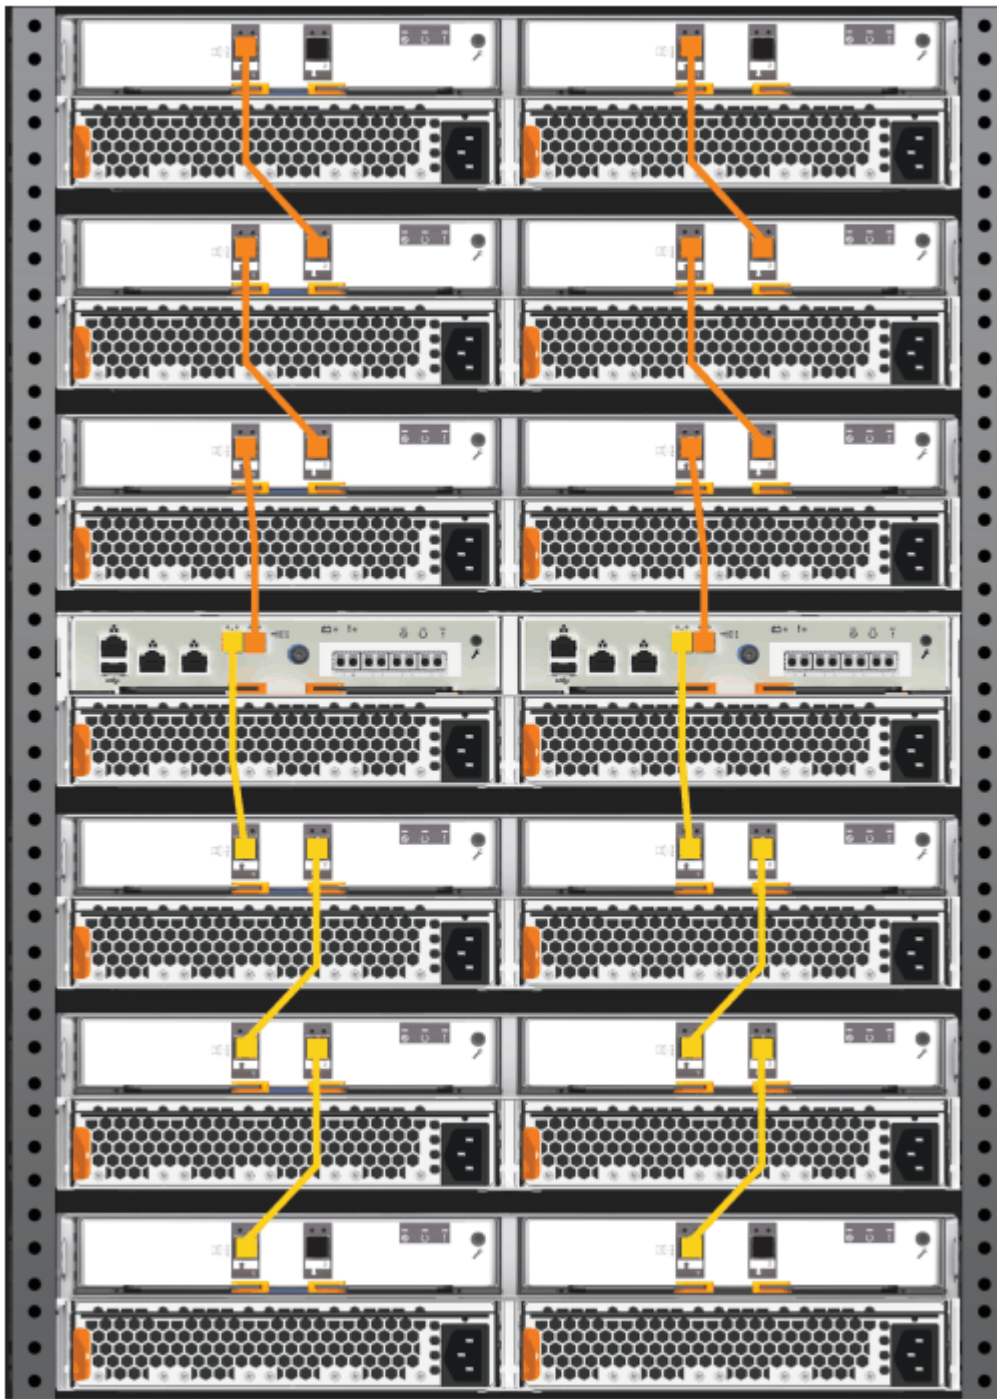

Figure 75. Connecting the SAS cables to a Storwize V5030E system
Figure 75 on page 87 shows how to connect SAS cables on a Storwize V5030E system. In this figure, two expansion chains are connected to the Storwize V5030E system.
2. To add a second expansion chain to the Storwize V5030E control enclosure, use the supplied SAS cables to connect the control enclosure to the expansion enclosure at rack position 2, as shown in Figure 75 on page 87.
3. If more expansion enclosures are installed, connect each one to the previous expansion enclosure in a chain; use two Mini SAS HD to Mini SAS HD cables, as shown in Figure 75 on page 87.